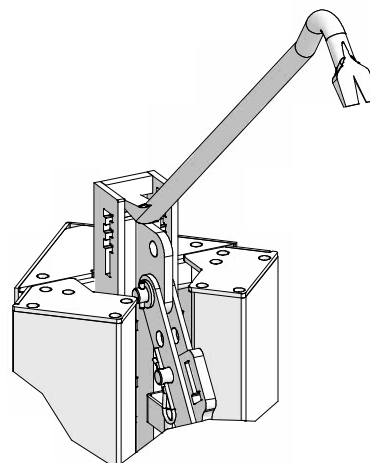

Fig. 35.5
7. The stripping corner can be reset for the next pour by positioning the crowbar at position C (Fig. 35.5) and pushing the bell-crank lever down.